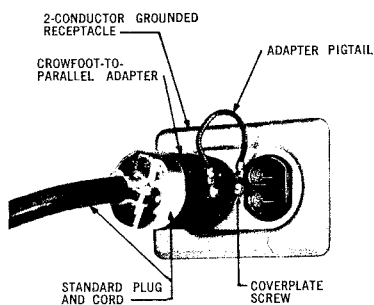

Fig. 10 — Grounded 2-Conductor Receptacle
nonmetallic sheath cable with a grounding conductor, the outlet boxes may be grounded. Under these conditions and only after it has been found that the boxes are grounded, the grounding pigtail terminal on the adapter or plug may be fastened under the coverplate screw of the receptacle. (See Fig. 10).
- 5.04 In grounding to a 2-Conductor receptacle (Fig. 10), connect pigtail to coverplate screw before inserting adapter into the receptacle.